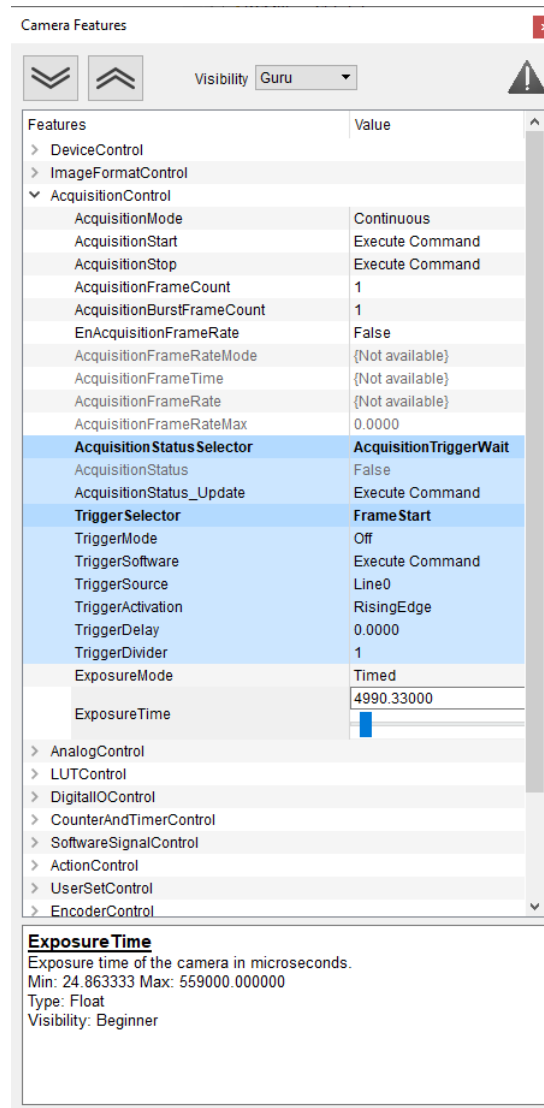

Figure 2.14: Control settings on the camera
8. Camera parameters can be modified by clicking the button Features (see Fig. 2.14). The visibility option Beginner shows most the basic parameters and hides the more advanced parameters. If you don't have previous experience with Photonfocus GigE cameras, it is recommended to use Beginner level.